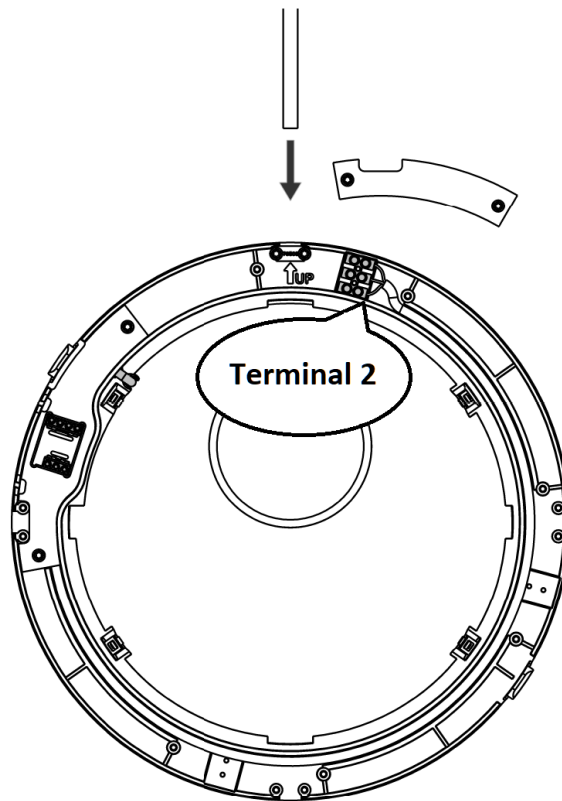
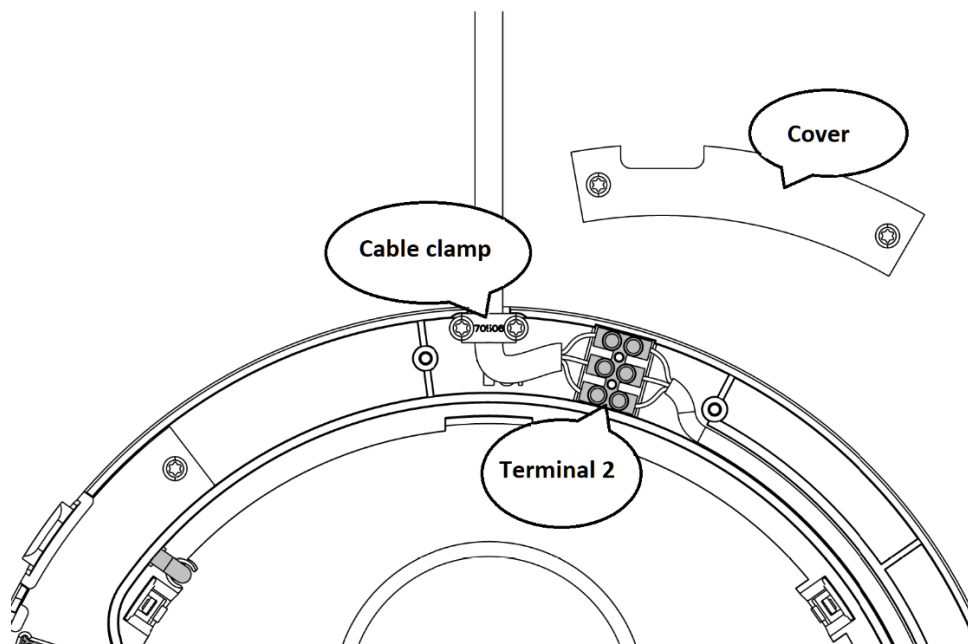

Figure 30 - Terminal 2
Figure 31 - 230V cable connection in Terminal 2
1. Detach the terminal 2 cover, see Figure 30 and Figure 31 below.
2. Attach the cable to terminal 2 with wire colors matching the internal wires, see Figure 31.
1. Detach the cover over terminal 2, see Figure 30 and Figure 31.